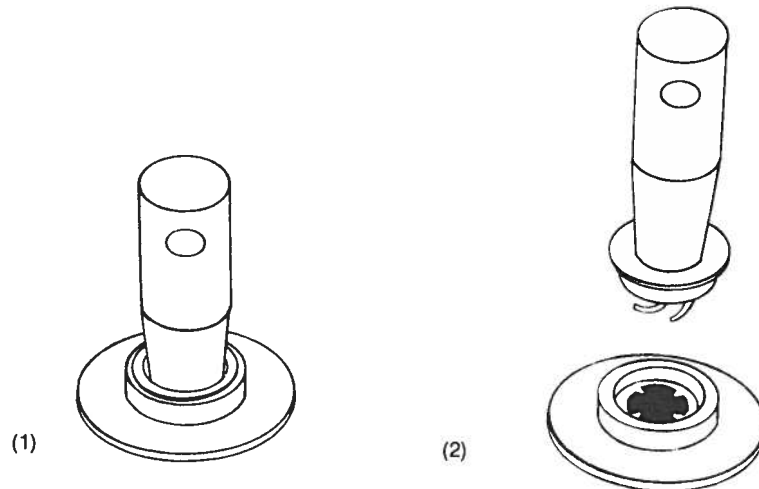

Figure 5.4 Replacing the Crystal
2. Gently pry the crystal retainer from the holder (or use crystal snatcher; see Figure 5.4).